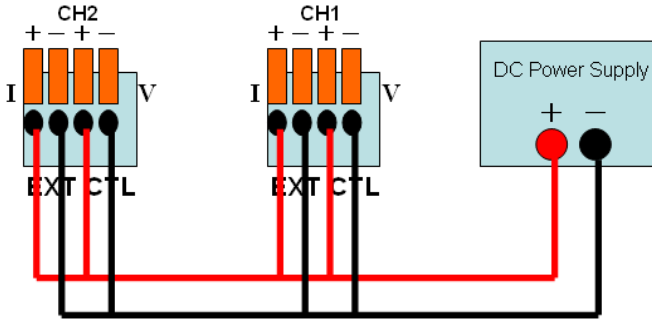

Figure 38- Dual Channel External Analog Voltage Input Calibration Setup
- To begin calibration with the external resistor, remove the DC source and connect the precision resistor to the control card, as shown in Figure 38(right) below.
- Once finished, **CH1 EXT. CURR Res** will be selected. Connect the precision resistor as shown in Figure 38(left). Press  to proceed with the calibration.